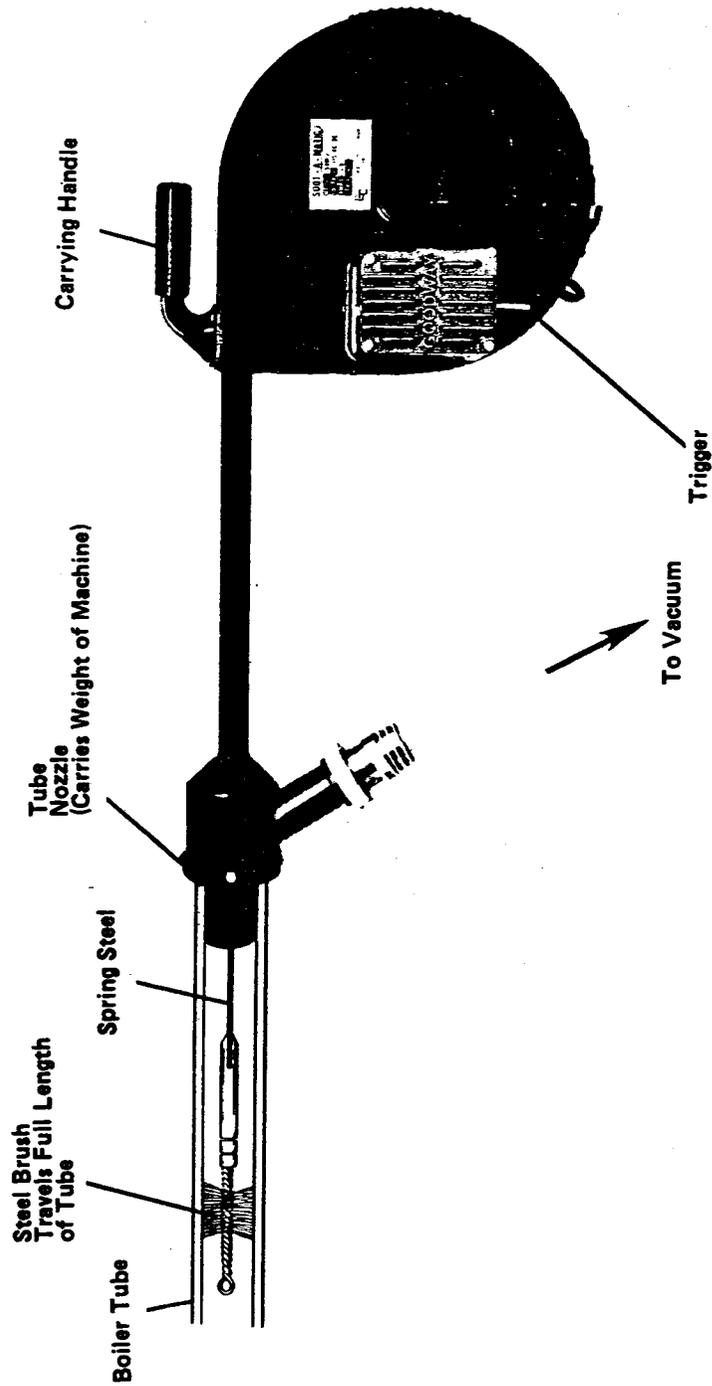

FIGURE 2-28. FIRE TUBE CLEANING SYSTEM
a. Brushes, Scrapers, and Hand Lances. Brushes and scrapers are made in various sizes to fit the boiler tubes. They are fastened to a long handle, usually a piece of pipe, and pushed through the tubes. Automatic brushing systems with vacuum dust-collecting attachments are effective and common. Figure 2-28 illustrates a fire tube cleaning system. The hand lance is a piece of pipe supplied with compressed air or steam. Occasionally, a special head is attached to the hand lance. The hand lance may be needed to remove deposits of ash or slag even on boilers equipped with mechanical sootblowers.